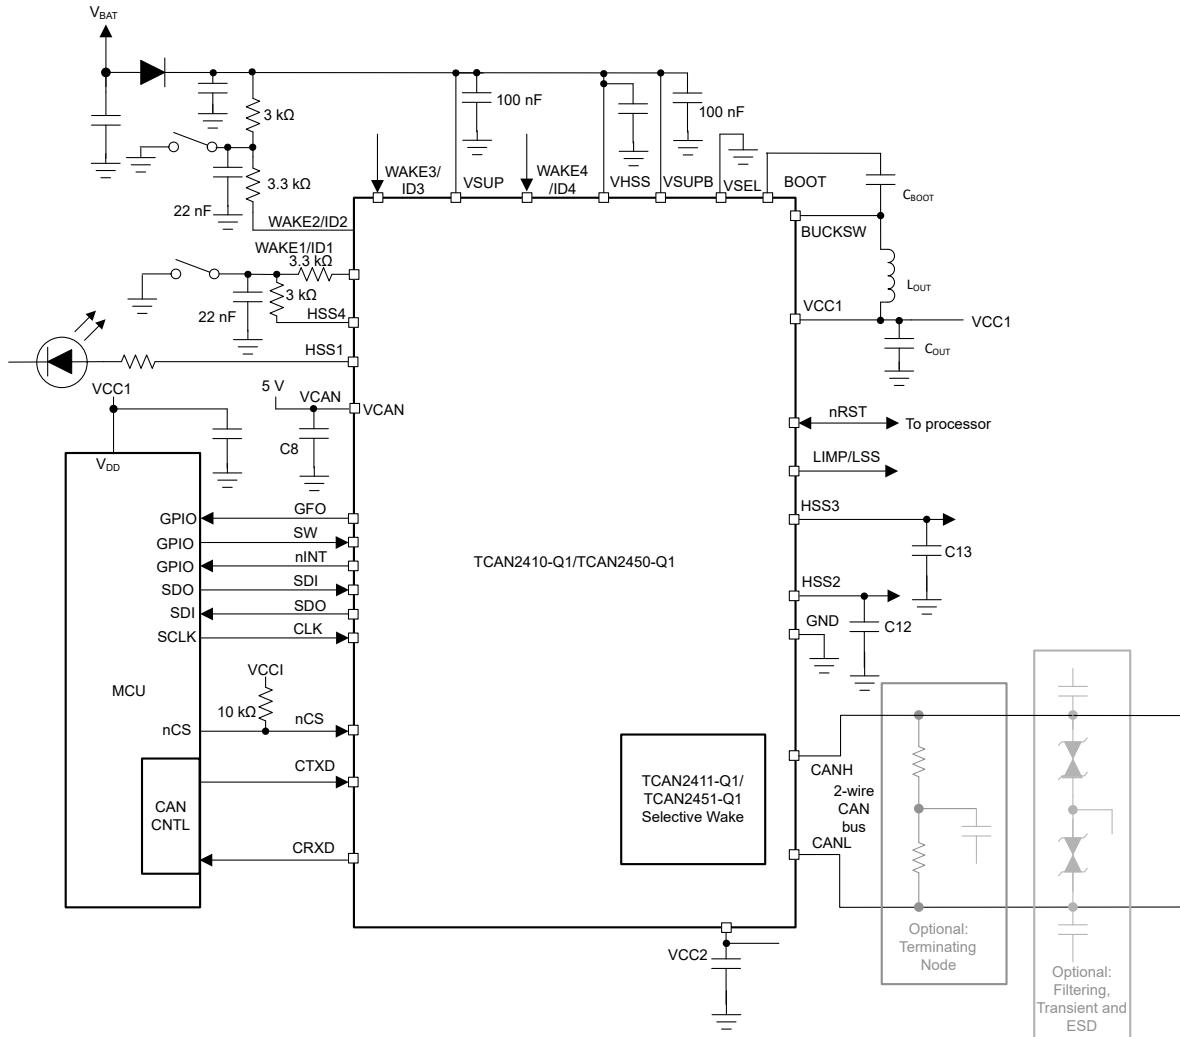

Figure 8-22. Application Drawing With Cyclic Sensing Configuration
- Connect the desired WAKE pins to HSS4 as shown in Figure 8-22